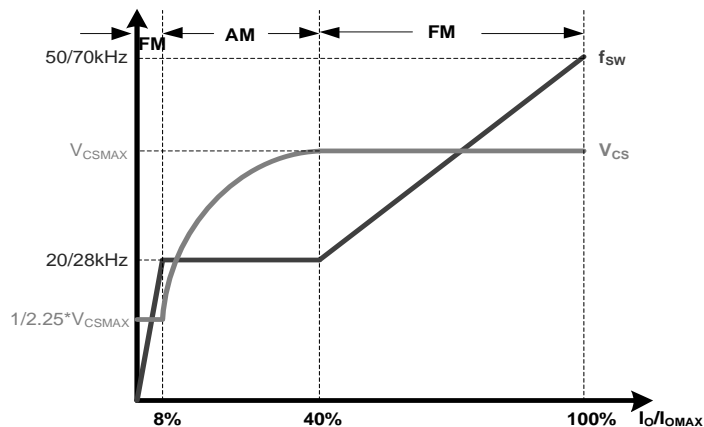

Figure 4. Segment Peak Current and Operating Frequency at CV Mode
In order to avoid audible noise issue, AP3987CT uses 3-segment primary peak current control method at Constant Voltage (CV) mode, the current sense threshold voltages are multiple segments with different loading, as shown in Figure 4, which are  $V_{CS\_H}$  for high load, varied  $V_{CS\_M}$  for medium load and  $V_{CS\_L}$  for light load. In no load and ultra light load condition (NL mode), the current reference is also  $V_{CS\_L}$ . But the operation in NL mode is different, which will be described in next section.